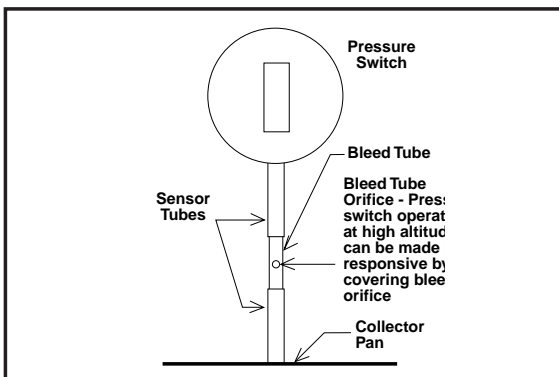

Figure 14. *RA Bleed Tube Installation
1. Remove the rubber tubing from the pressure switch sensor tube and the collector pan sensor tube. Cut 1/2 inch from one end of the rubber sensor tube, fold in half and cut along the bend line. Discard the 1/2 inch long piece of tubing. Select the correct bleed tube using the table supplied with vent kit #903196 and place the other two pieces of tubing on both ends of the bleed tube. Do not cover the hole in the bleed tube. Place the assembly back on the pressure switch sensor tube and the collector pan sensor tube. (See Figure 14.)